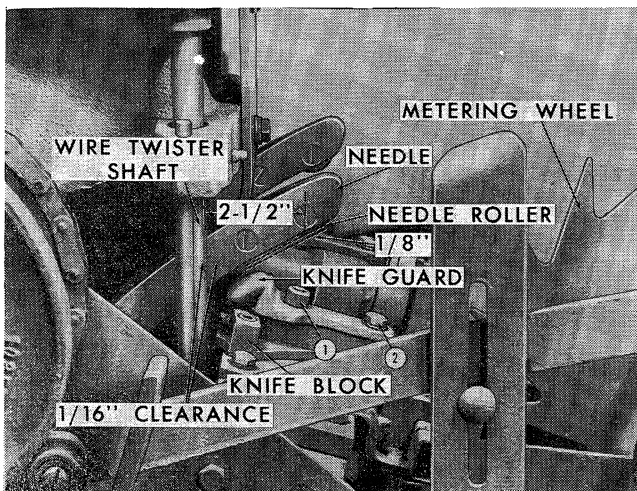

Figure 83
2. Turn the flywheel counterclockwise (facing the flywheel) until the needles (without wires) are in the uppermost position as shown in Figure 83.
3. Check the $\frac{1}{8}$ " clearance between the needle rollers and the knife guards, Figure 83. Clearance can be reduced by loosening the rear needle clamp bolts and tightening the front bolts, or increased by loosening the front bolts and tightening the rear bolts.
4. Measure the $2\frac{1}{2}$ " dimension between the rear edges of the twister shafts and the centers of the needle roller screws, Figure 83. Necessary adjustments can be made by detaching the needle adjusting clevis and lengthening or shortening the rod as required.
5. A $\frac{1}{16}$ " clearance should be maintained between the needles and the twister drive shafts, Figure 83. The correct clearance can be established by loosening the needle clamp bolts and sliding the needles laterally on the needle yoke.
The knife guards, Figure 83, should align with the ends of the knives. Knife guard adjustment is made as follows:
1. Check each knife guard, Figure 83, to make sure the front points of the guards align with the front points of the knives and that both knives rotate freely without vertical play.
2. Adjust the knife guards by loosening the bolts, (1) and (2), Figure 83, and aligning the guards with the end of the knives. Then tighten the adjusting bolts (1) and (2). Back off the adjusting bolt (1), until the knives pivot freely without vertical play, and lock the bolt with the jam nut.